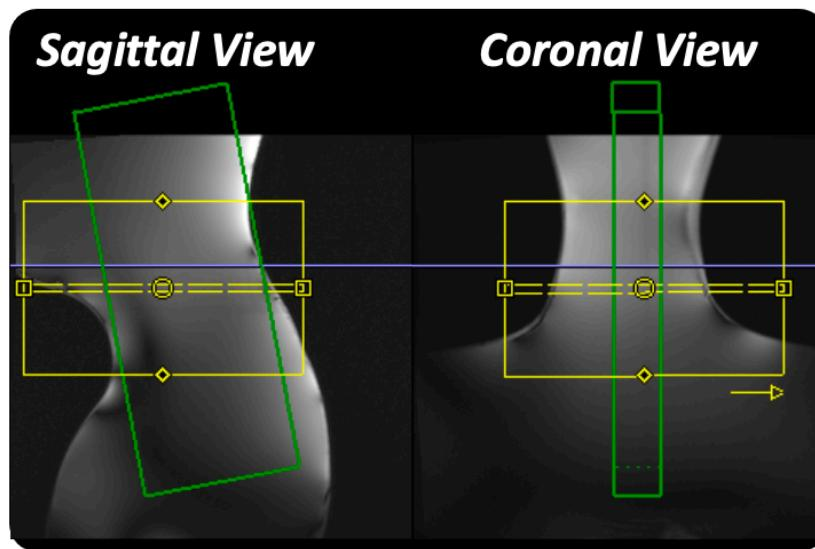

Figure 11. Positioning of FOV and B0 shim box for axial coilQA scans.
- **Position the Field of View (FOV) according to Figure 11.** The center of the slice group should roughly **correspond to the Isocentre**. If the FOV in the FH direction for the imported protocol is too large for your coil, use the largest FOV possible in the FH direction for your coil.